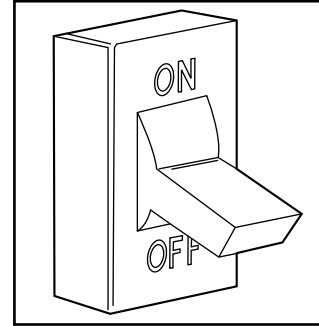
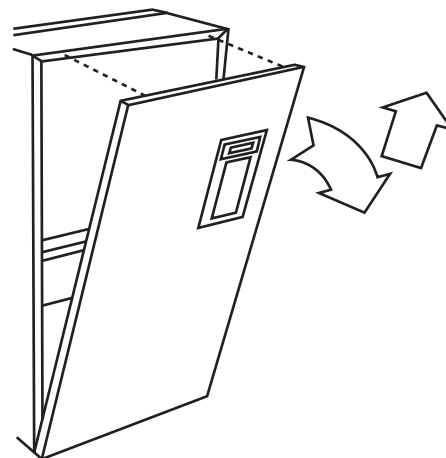

Fig. 20 - Turn Off Electrical Supply
Fig. 21 - Main Furnace Door
1. Turn off electrical supply to the furnace. See Fig. 20.
• AIR FILTER(S) LOCATED IN BLOWER COMPARTMENT:
a. Remove main furnace door. See Fig. 21.
1. Turn off electrical supply to the furnace and remove the main furnace door. See Fig. 20 and 21.